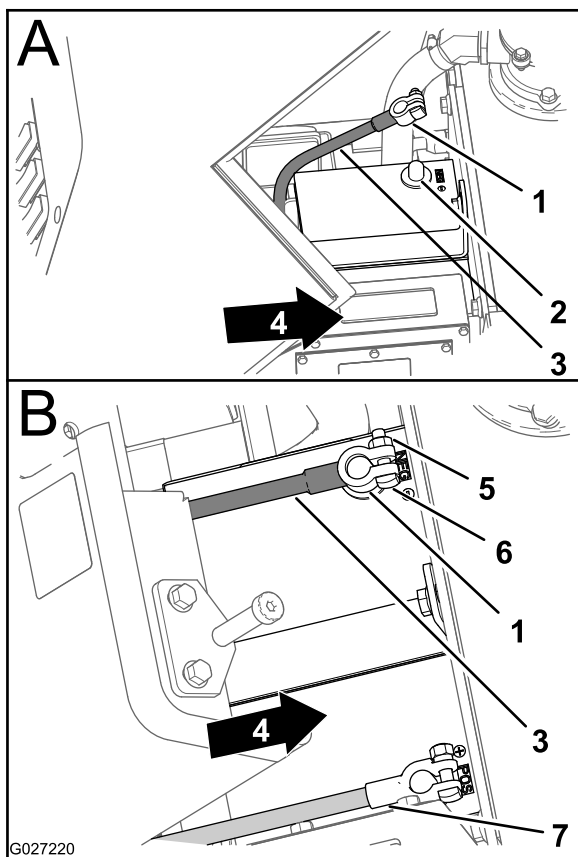

Figure 21
2. Verify the torque on the positive cable (Figure 21).